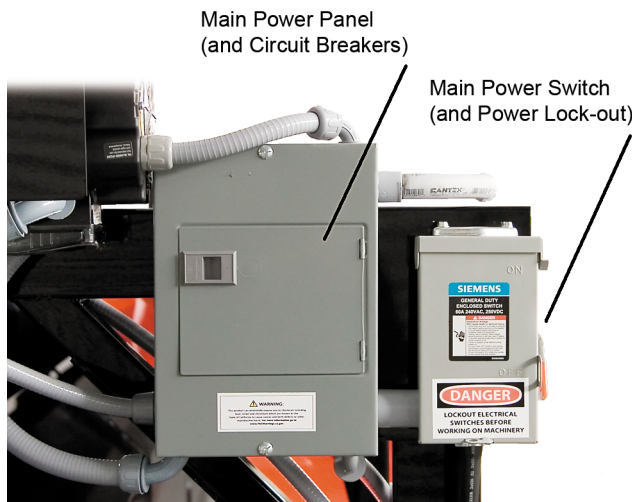

Figure 1
- The two fixed speed conveyors for flower and stem/shoot extraction are powered by a single 15amp circuit breaker on the main power panel, shown in figure 1. When power is applied and this circuit breaker is on, the fixed speed conveyors will start automatically and run continuously for as long as the main power switch is engaged. Unplugging the machine, turning off the main power switch (power lockout) or turning off the 15amp circuit breaker will shut off the fixed-speed conveyors. Note: the 15amp circuit breaker is for overload/emergency protection only and should not be used as an “on/off” switch for the fixed speed conveyors.
1. Lock out the main power switch and unplug the machine from the power source. (Figure 1)